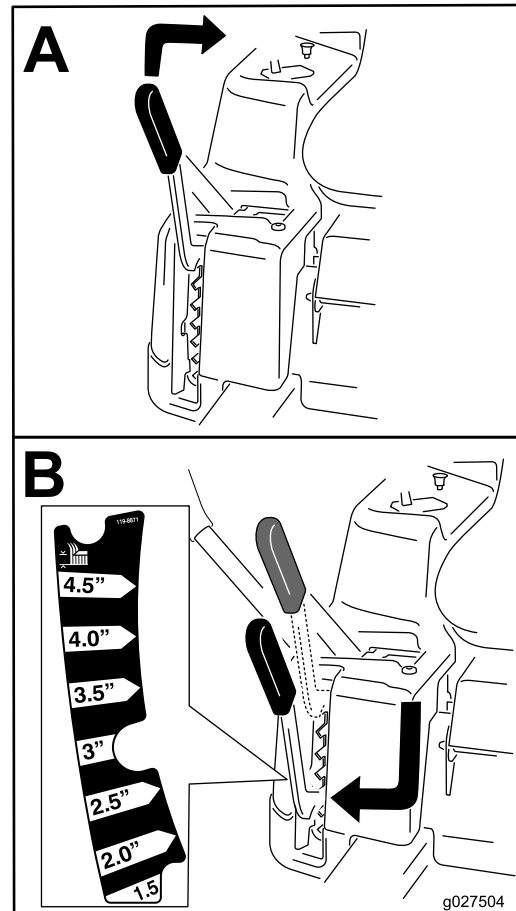

Figure 17
**Note:** The transport position is the highest height-of-cut position or cutting height 115 mm (4.5 inches) as shown in Figure 17.